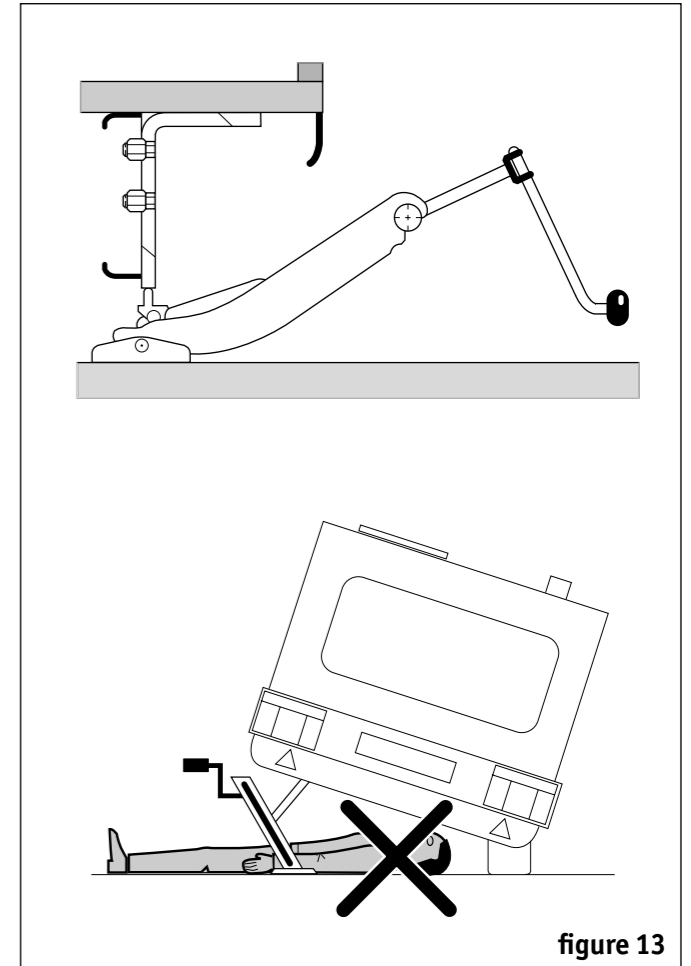

figure 13
- Place the jack in the jack support near the wheel to be exchanged (fig. 13). If the caravan is not equipped with a jack support, the jack must be placed under the chassis beam near the wheel to be exchanged.